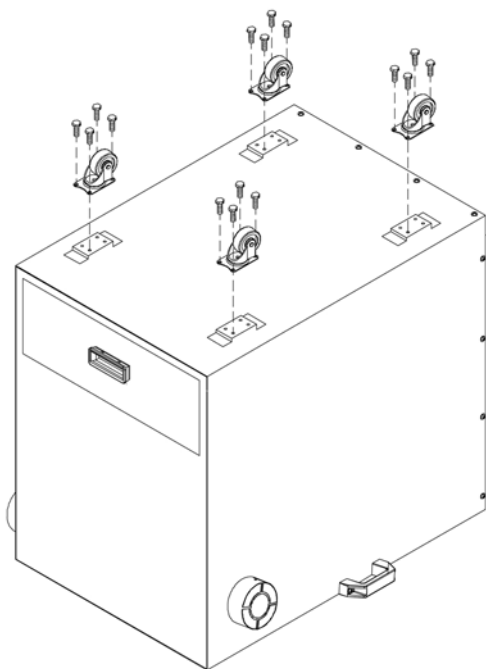

Figure 1
1. Turn dust collector upside down, with help from an assistant. Assemble casters to plates with the washer head screws. See Figure 1.